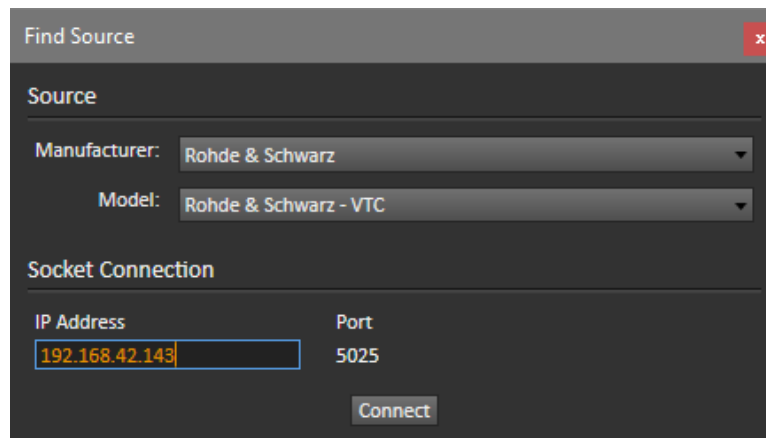

Figure 1. CalMAN Find Source dialog, for connecting the Rohde & Schwarz VTC to CalMAN.
2. On the CalMAN *Find Source* dialog (Figure 1):